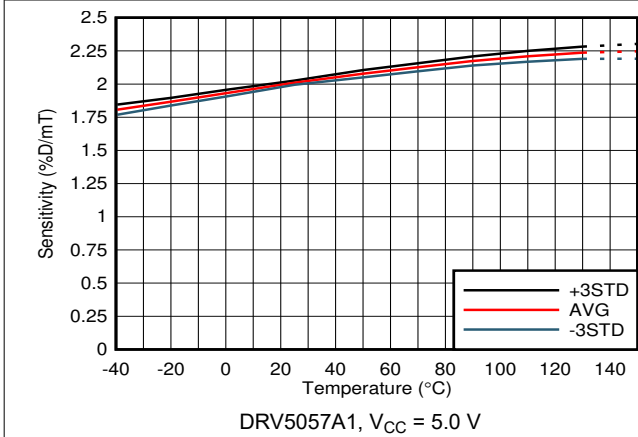

图 6-7. Sensitivity vs Temperature
- (1) B is the applied magnetic flux density.
- (2) See the # 7.3.2 section.
- (3)  $B_L$  describes the minimum linear sensing range at  $25^\circ\text{C}$  taking into account the maximum  $V_Q$  and sensitivity tolerances.
- (4)  $S_{TC}$  describes the rate the device increases Sensitivity with temperature. For more information, see the # 7.3.4 section and 图 6-7 to 图 6-20.
- (5) Product Preview data only for DRV5055Z1 - DRV5055Z4 device options.